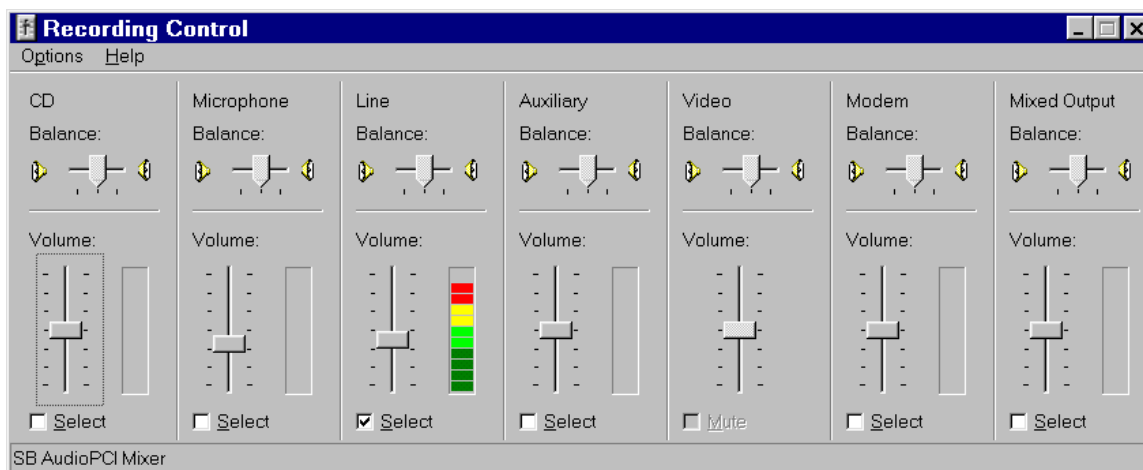

Figure 7.2 PC Rx Volume Control Panel
On the Digipan window, go to **Configure/Waterfall Drive** on the control bar at the top of the window. This will bring up a window to allow you to set up which sound sources will be selected for processing by the sound card. Select **Options / Properties**, set it to “Adjust volume for recording” and then click on all sources shown at the bottom of the panel. Click on “OK” and you will see the sliders for all possible sources for the sound card input. The display should look similar to the panel in Figure 7.2. Click “Select” ONLY on the “Line” slider. This is the one that the interface is tied to. At this time, you can select “Options” again and unclick all of the sources except the Line In if you want to. Set the slider for about the middle of the range.
7.4.1.2 Set the initial PC audio level - Set the sliders on volume control to the positions shown in figure 7.2. About one third of the way on both sliders.
7.4.2.4 Set the Initial Transmit Drive controls - Set the Transmit Drive knob on the interface to full CCW. Leave the PTT switch on the interface in the **OFF** position. Leave the rig mic gain at it's normal setting for voice operations. Set the PC Volume control and the WAVE control at the levels shown in Figure 7.2.